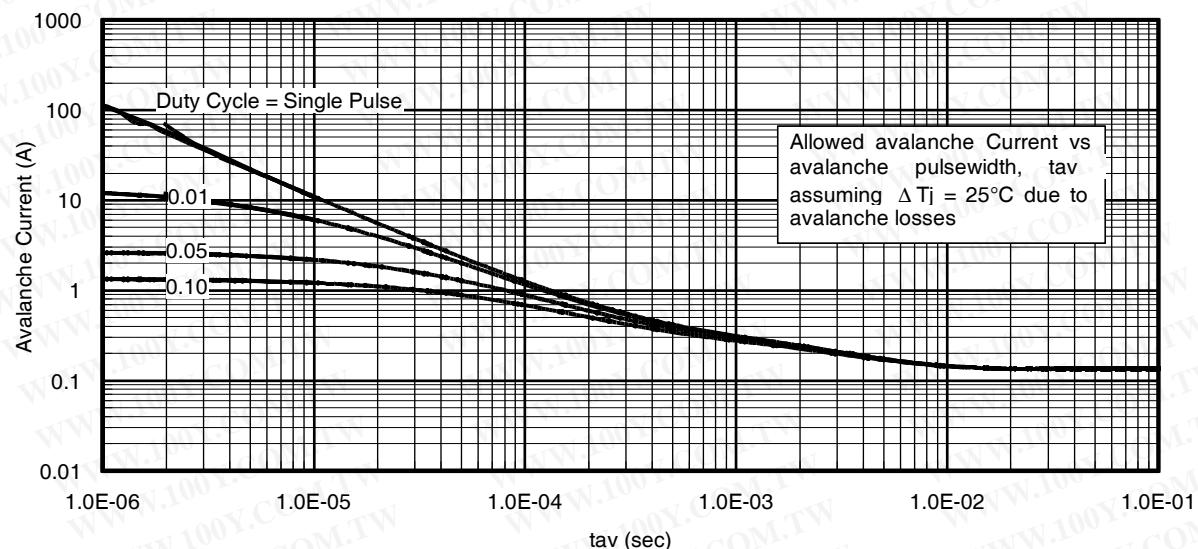

Fig 14. Typical Avalanche Current Vs. Pulsewidth
- ① Repetitive rating; pulse width limited by max. junction temperature.
- ② Starting  $T_J = 25^\circ\text{C}$ ,  $L = 1.62\text{mH}$ ,  $R_G = 25\Omega$ ,  $I_{\text{AS}} = 11\text{A}$ .
- ③ Pulse width  $\leq 400\mu\text{s}$ ; duty cycle  $\leq 2\%$ .
- ④  $R_\theta$  is measured at  $T_J$  of approximately  $90^\circ\text{C}$ .
- ⑤ Limited by  $T_{j\text{max}}$ . See Figs. 14, 15, 17a, 17b for repetitive avalanche information.
Notes on Repetitive Avalanche Curves , Figures 14, 15:
7.  $\Delta T$  = Allowable rise in junction temperature, not to exceed  $T_{jmax}$  (assumed as  $25^\circ\text{C}$  in Figure 14, 15).